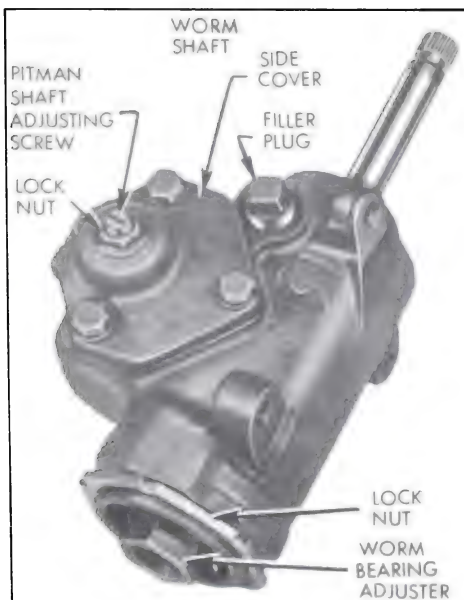

Figure 8-3—Manual Steering Gear Adjusters
7. Adjust Worm Bearing Preload. Loosen worm bearing adjuster lock nut using a drift. See Figure 8-3. Turn bearing adjuster as required to bring pull between 2 and 7 inch pounds. Tighten lock nut, then recheck preload.